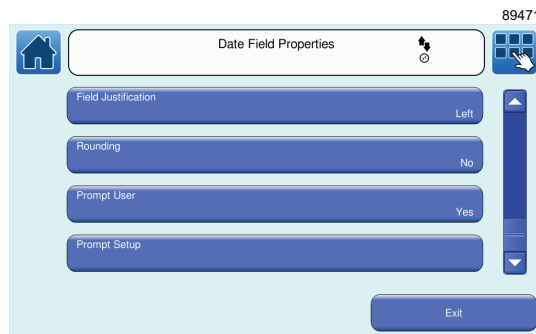

Figure 93. Date Field Properties Screen - Field Justification
- 2 Touch the **Edit Properties** button to display the corresponding Field Properties screen. Scroll down to the **Field Justification** button shown in Figure 93. By default the justification is set to Left.